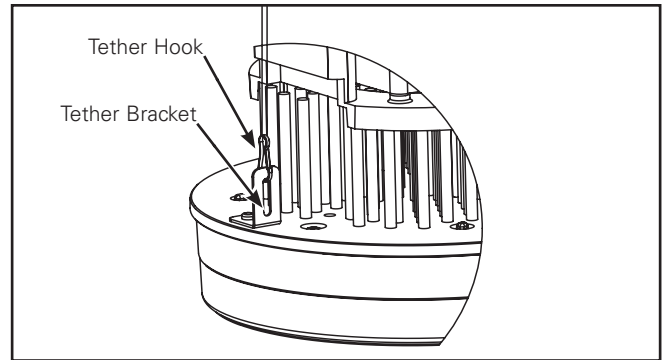

Figure 7.
4. Connect tether to module (Figure 7).